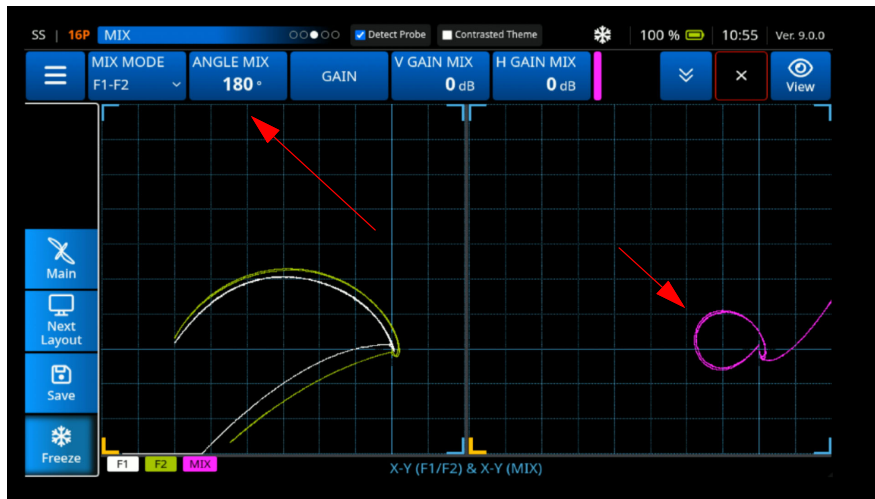

Figure 3-95 Adjust the Mix Signal Setting
9. Using the **Angle** setting and the knob, turn the **Mix** signal 180° (See Figure 3-95 on page 113).